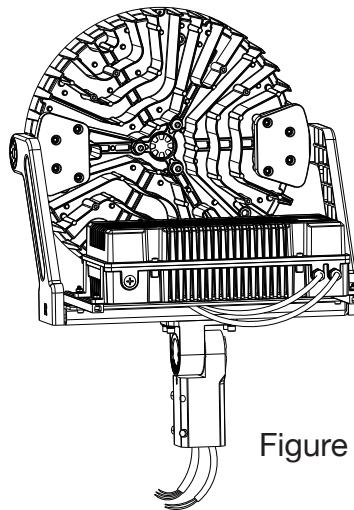

Figure 11
2. Install the bracket on the fixture (Fig. 11)